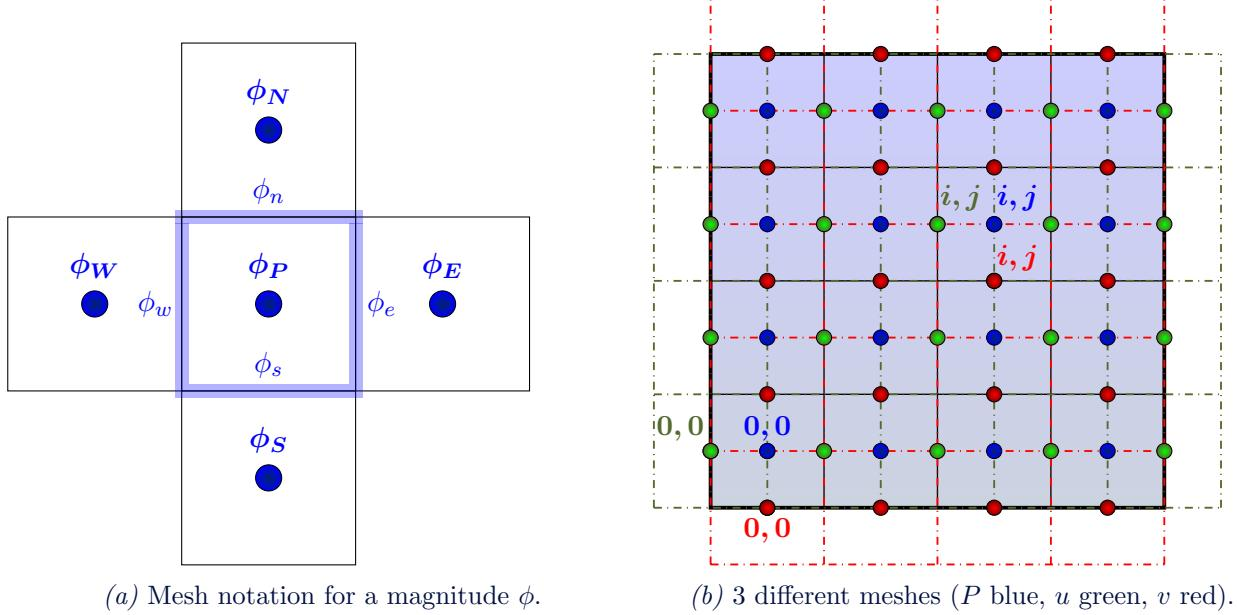

Figure 1: Staggered mesh geometry.
With Equation (6) we calculate the x and y components of velocity \mathbf{v} for the next timestep. We can discretize the gradient with the distance difference. The pressure index is still coherent with the ones described in Figure 1.